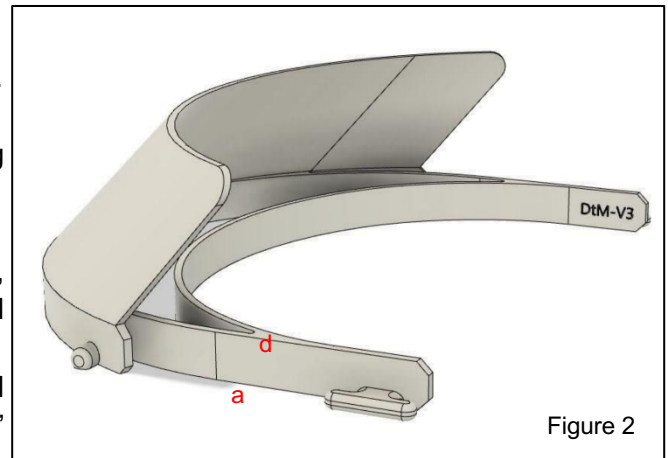

Figure 2
4. Take a single Cradle and Identify the flat face, this will indicate the bottom of the Cradle (label "a" in **Fig. 2**).
5. (Optional) Place a strip of micro-foam surgical tape on the inside edge of the Cradle (label "d" in **Fig. 2**) to increase comfort while wearing the face shield.
6. Take one elastic strap and slide it through the two attachment posts on either side of the Cradle positioning it one hole in from the edge of the elastic strap (label "b" in **Fig. 2**).
7. Holding the Cradle in your non-dominant hand, secure one of the outer holes in the Shield to the Cradle peg (label "c" in **Fig. 2**). Pull the Shield across the Cradle so that the middle and remaining edge holes line up with the pegs on the Cradle. The shield should gently snap into place.